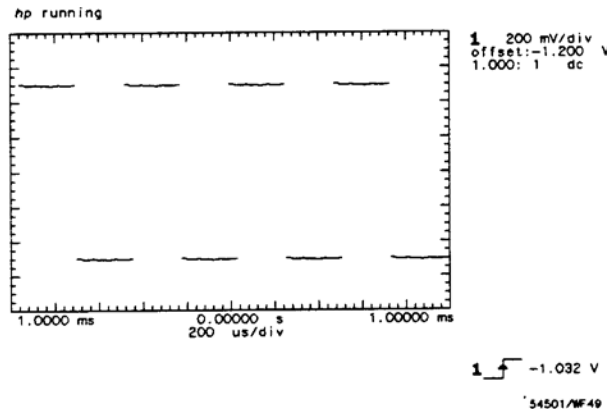

Figure 4-2. Input Signal for Window Viewing
- Press AUTOSCALE (see Figure 4-2).